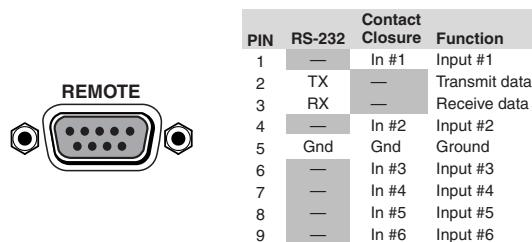

Figure 2-5 — Remote connector
- ④ **Audio Input connectors** — Connect balanced or unbalanced stereo or mono audio inputs to these 3.5 mm, 5-pole captive screw connectors. Connectors are included with each switcher, but you must supply the audio cable. See "Audio connections" on the next page to wire the connectors.
- ⑤ **Audio Output connector** — Connect a balanced or unbalanced stereo or mono audio device to this 3.5 mm, 5-pole captive screw connector. Connectors are included with each switcher, but you must supply the audio cable. See "Audio connections" on the next page to wire the connectors.
- ⑥ **Remote connector** — Connect a host device, such as a computer, touch panel control, or RS-232 capable PDA to the switcher via this 9-pin D connector for serial RS-232 control (figure 2-5).